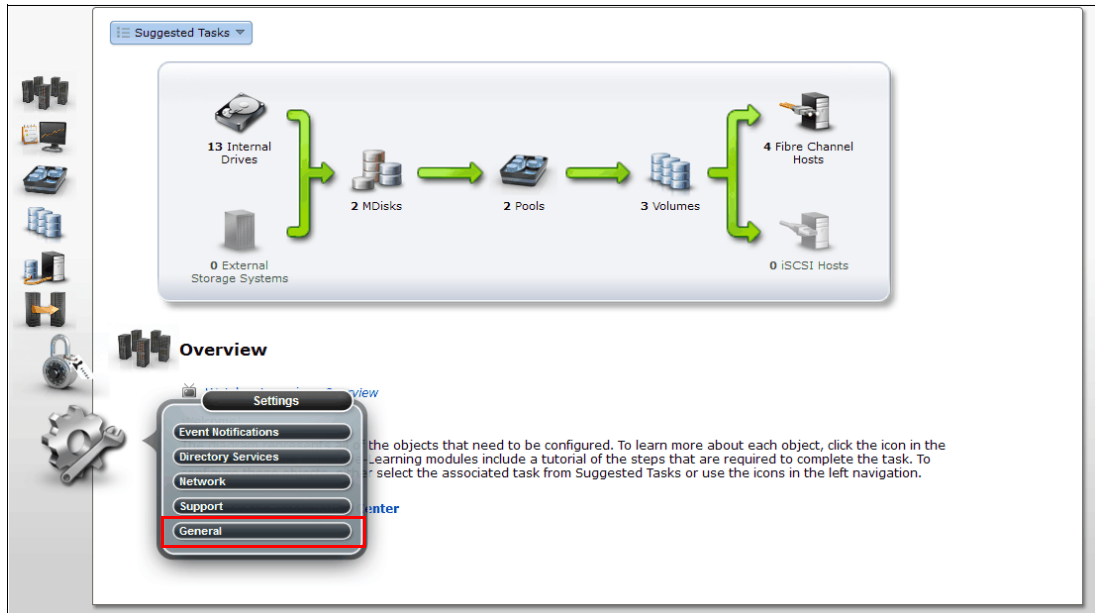

Figure 13-15 Management GUI - settings
2. Log in to your IBM Flex System V7000 Storage Node management GUI. From the IBM Flex System V7000 Storage Node management GUI home page, go to **Settings** → **General**, as shown in Figure 13-15.